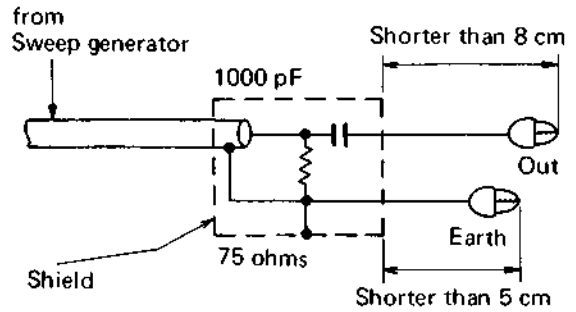

Fig. 3-1B Sweep signal supply cable
- 5) VIF and SIF adjustment probes. (Fig. 3-1B)